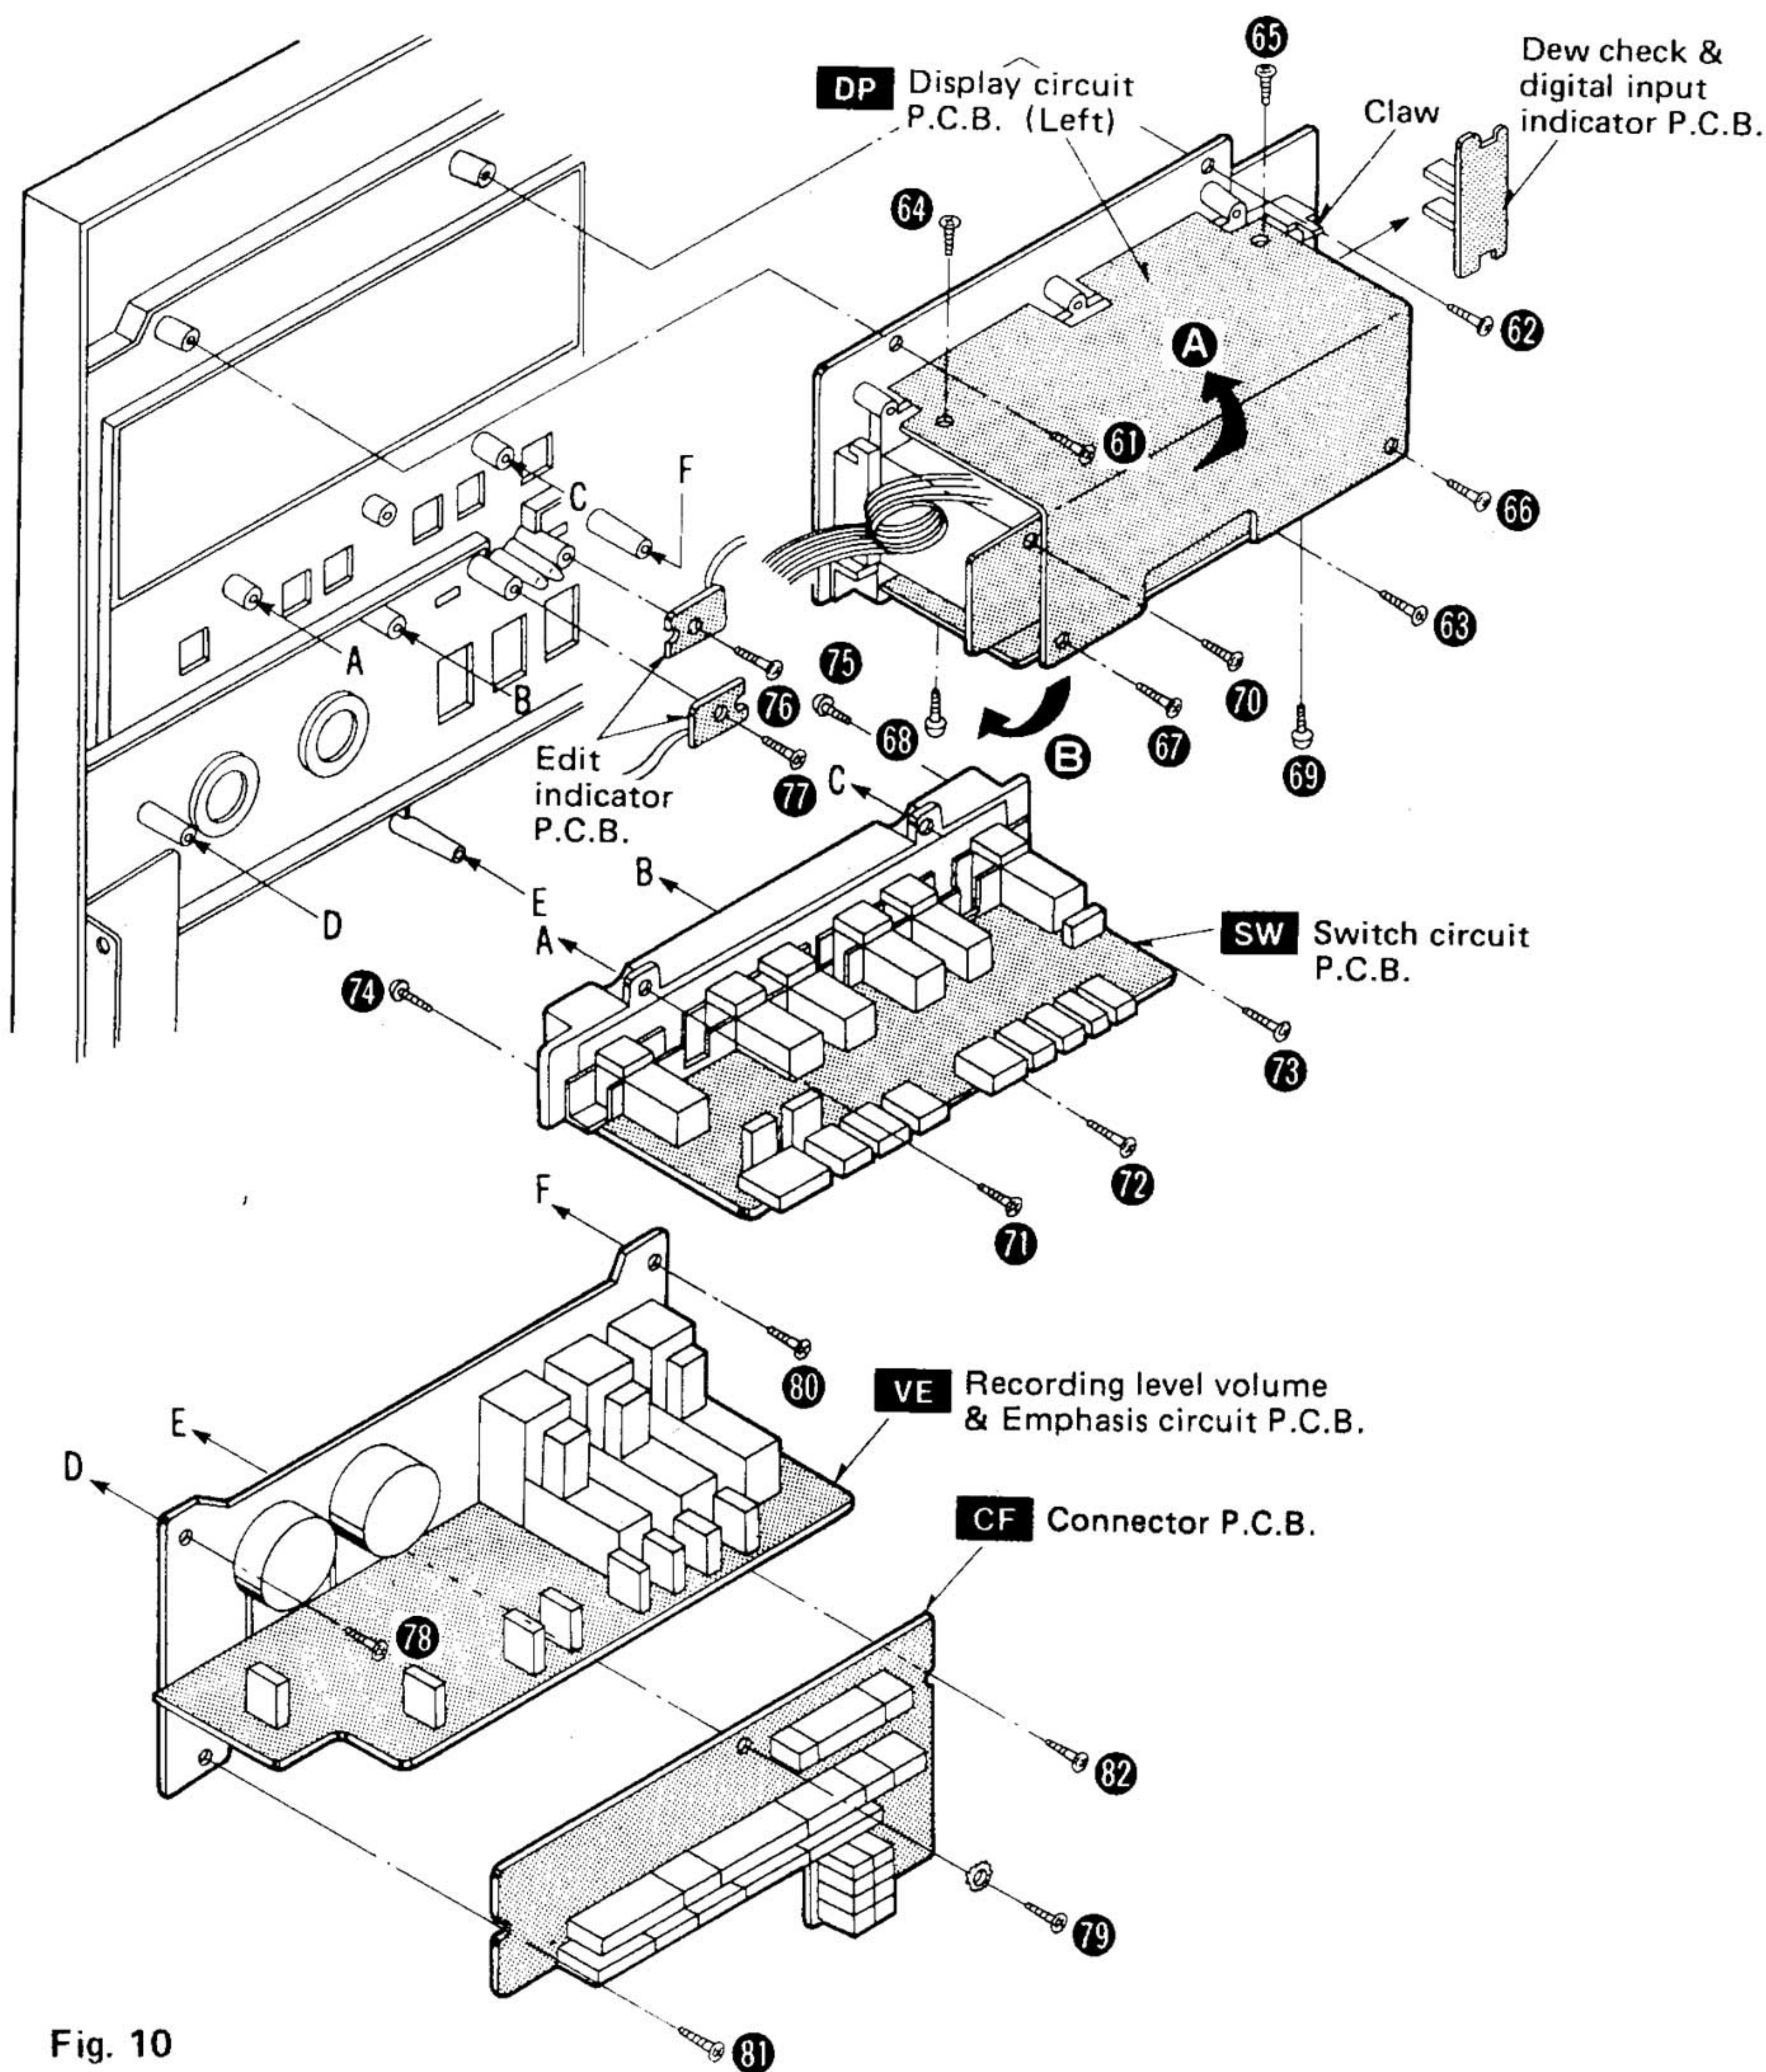

Fig. 10
3. Remove the 3 setscrews (Fig. 10 : 61 ~ 63 ) of the display unit.
4. When replacing the parts of L channel display P.C.B., remove the 4 setscrews (Fig. 10 : 64 ~ 67 ) of the printed circuit board and lift the P.C.B. in the direction of the arrow **A**.
5. When replacing the parts of R channel display P.C.B., remove 2 setscrews (Fig. 10 : 68 , 69 ) of the printed board and lower the P.C.B. in the direction of the arrow **B**.
6. When removing the fluorescent tube, remove the setscrews (Fig. 10 : 66 , 67 ) of L channel display P.C.B., and lift the printed circuit board in the direction of the arrow **A**. Then, remove the setscrew (Fig. 10 : 70 ) of the fluorescent tube P.C.B..
2. Remove the 3 setscrews (Fig. 10 : 71 ~ 73 ) of the printed board.
3. When removing the control button, remove the 2 setscrews (Fig. 10 : 74 , 75 ) of the switch P.C.B.
3. Remove the 2 setscrews (Fig. 10 : 76 , 77 ) of the edit indicator P.C.B.
4. Remove the 3 setscrews (Fig. 10 : 78 ~ 80 ) of the recording level volume and emphasis P.C.B..
5. Remove the setscrews 81 and 82 in Fig. 10 to remove the **CF** printed circuit board.